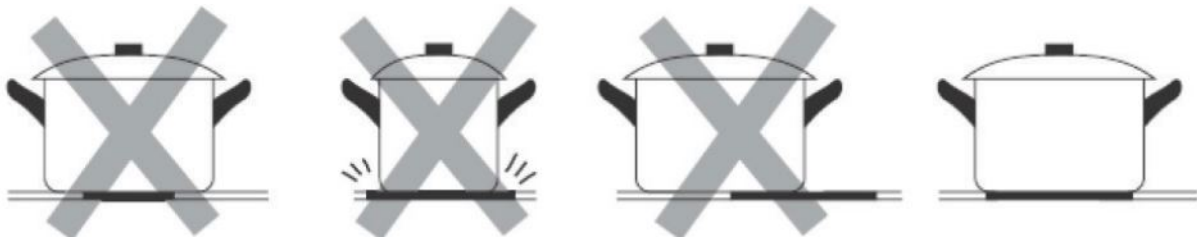

Fig. 4
- For each cooking zone, use the correct cookware size. The diameter of the cookware bottom should correspond to the size of the cooking zone (Fig. 4).